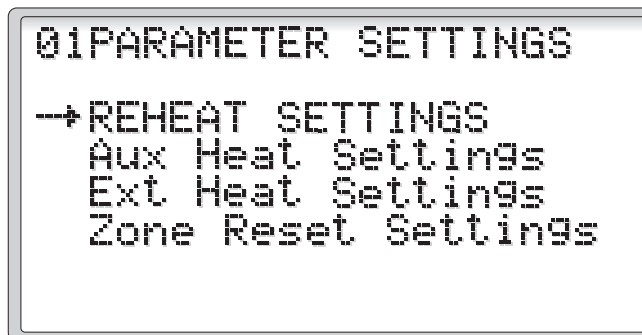

Figure 53
2.3.3.2 Parameter Settings (Figure 53)
Selecting the PARAMETER SETTINGS from the Service Menu displays the Parameter Settings Menu as shown in Figure 53. This menu allows the operator to modify the Reheat Settings, Auxiliary Heat Settings, Extended Heat Settings and the Zone Reset Settings.